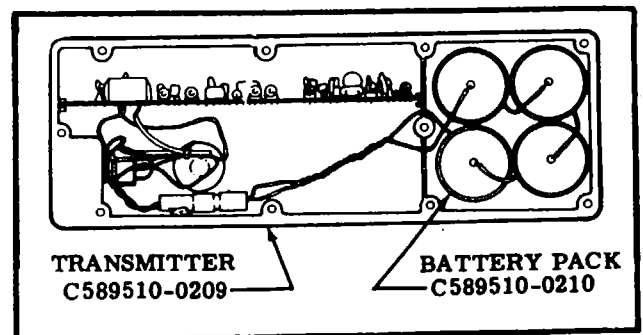

Figure 16-16. Lithium 4 Cell Battery Pack Installation.
16-99. REMOVAL AND INSTALLATION OF LITHIUM FOUR (4) CELL BATTERY-PACK. (See figure 16-16.)
- d. Place new battery-pack in the transmitter with four batteries as shown in the case in figure 16-16.
- e. Connect the electrical connector as shown in figure 16-16.